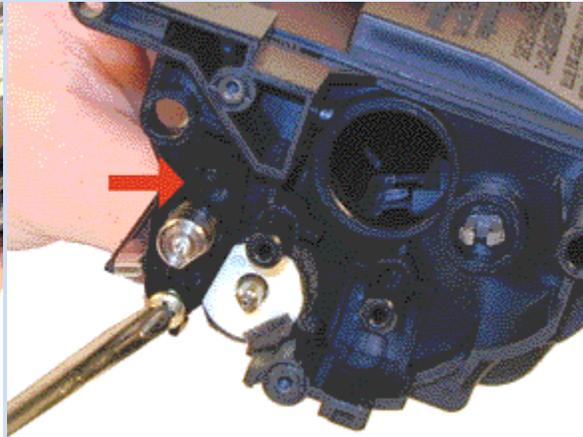

FIGURE 39
31. Replace the screw and holder on the right side of the developer roller shaft. See Figure 39